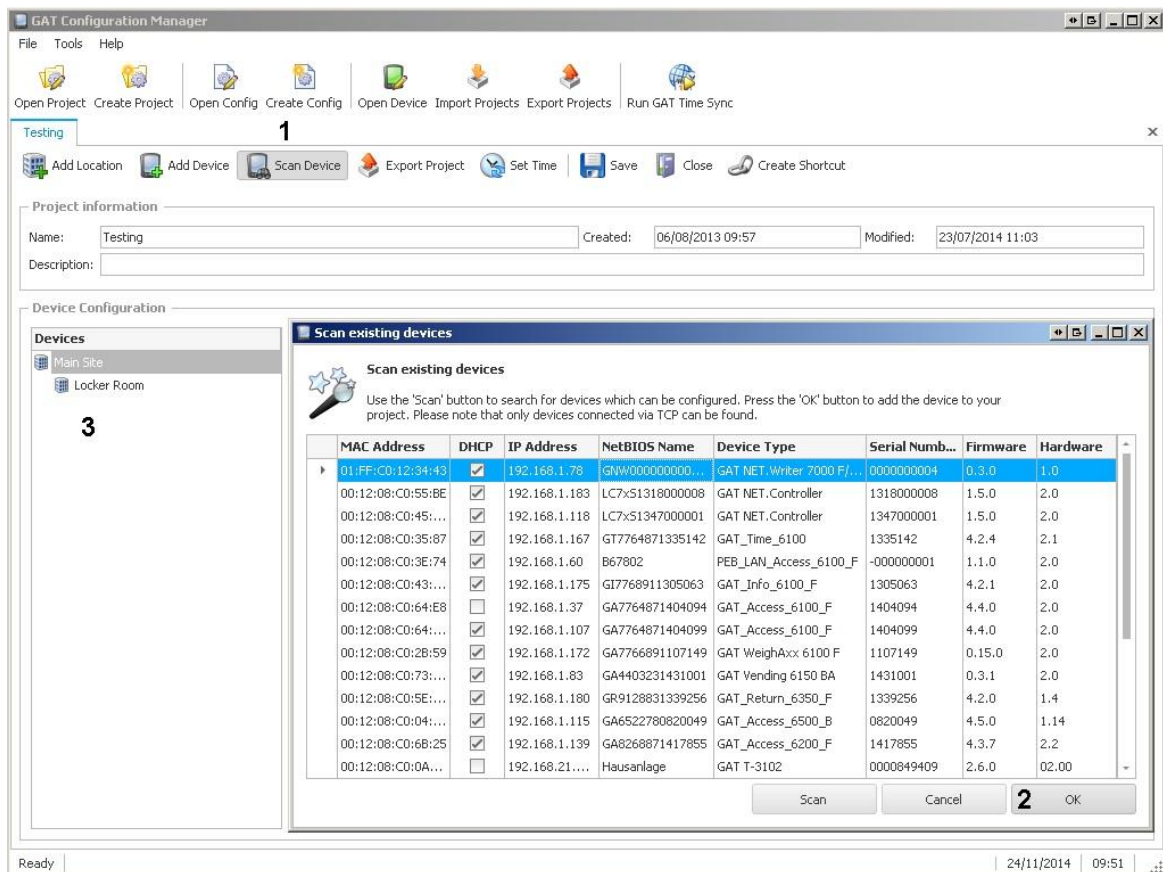

Figure 4.3 – GAT Config Manager - Scan device
- ▶ Once a project is established, click on the “Scan Device” icon (1 in Figure 4.3).
- The selected device is highlighted in blue as shown in Figure 4.3 .
- ▶ Click on “OK” (2 in Figure 4.3).
- The selected device is added to the “Devices” list (3 in Figure 4.3).